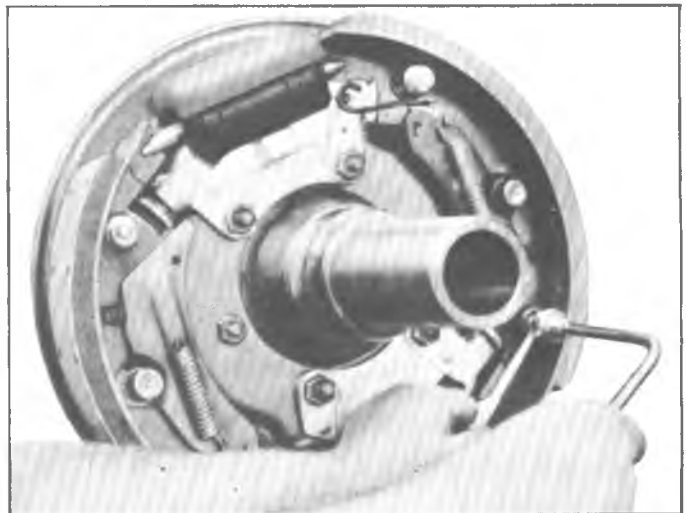

Fig. 77--Removing Hold Down Pins Using J-22348
5. Remove the brake shoe hold down springs and pins by compressing the spring with Tool J-22348 and, at the same time, pushing the pin back through the flange plate toward the tool. Then, keeping the spring compressed, remove the lock from the pin with a magnet (fig. 77).